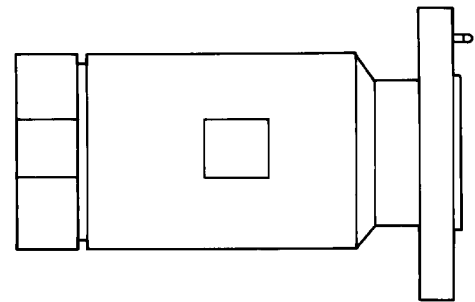

Figure 25. Typical EIA Series Connector 023025
58. **Series EIA Connectors.** These connectors are large, flange mount connectors for use with semi rigid corrugated cables (Figure 25).